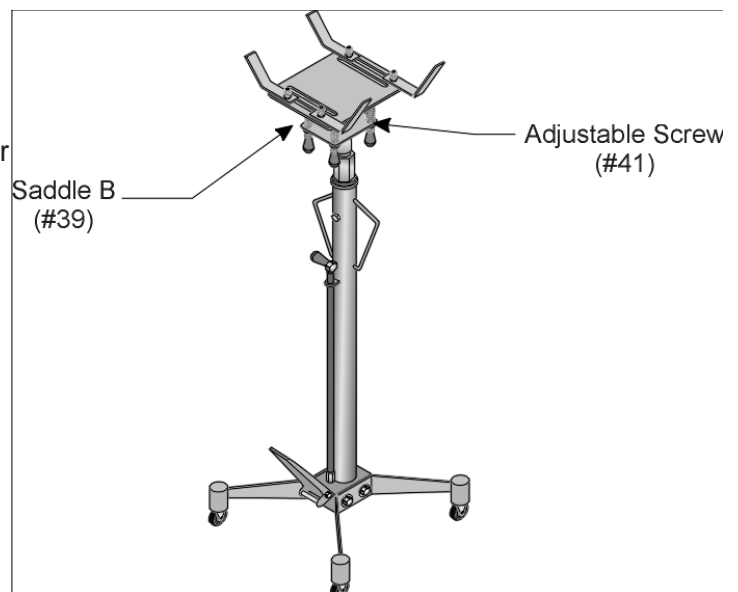

Figure 9--Adjusting the Angle and Attitude
- Step 5: If necessary, you can adjust the angle and attitude of the transmission by turning the ADJUSTABLE SCREWS (#41). Thread the ADJUSTABLE SCREWS clockwise (as viewed from below) to raise up that portion of the SADDLE. Thread the ADJUSTABLE SCREWS counterclockwise (as viewed from below) to lower that portion of the SADDLE. Thread the ADJUSTABLE SCREWS counterclockwise (as viewed from below) to lower that portion of the SADDLE as shown in Figure 9.